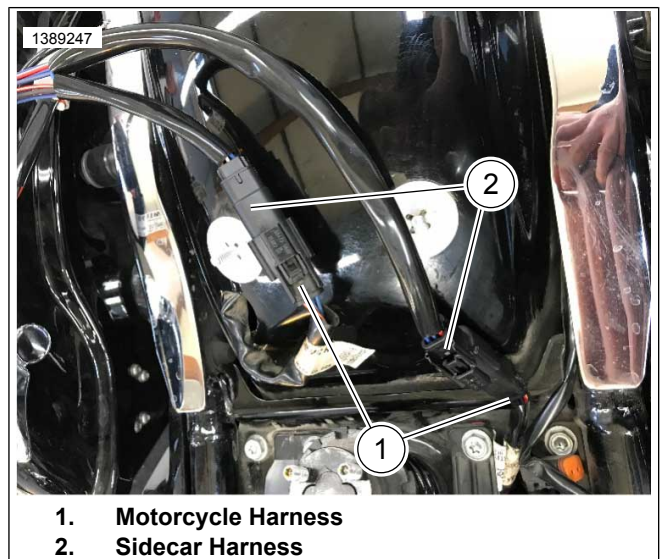

Figure 2-59. Harness To Motorcycle
4. See Figure 2-59. Connect the sidecar "Y" connectors (2) to the motorcycle rear light harness connector (1). Be sure latches snap together.